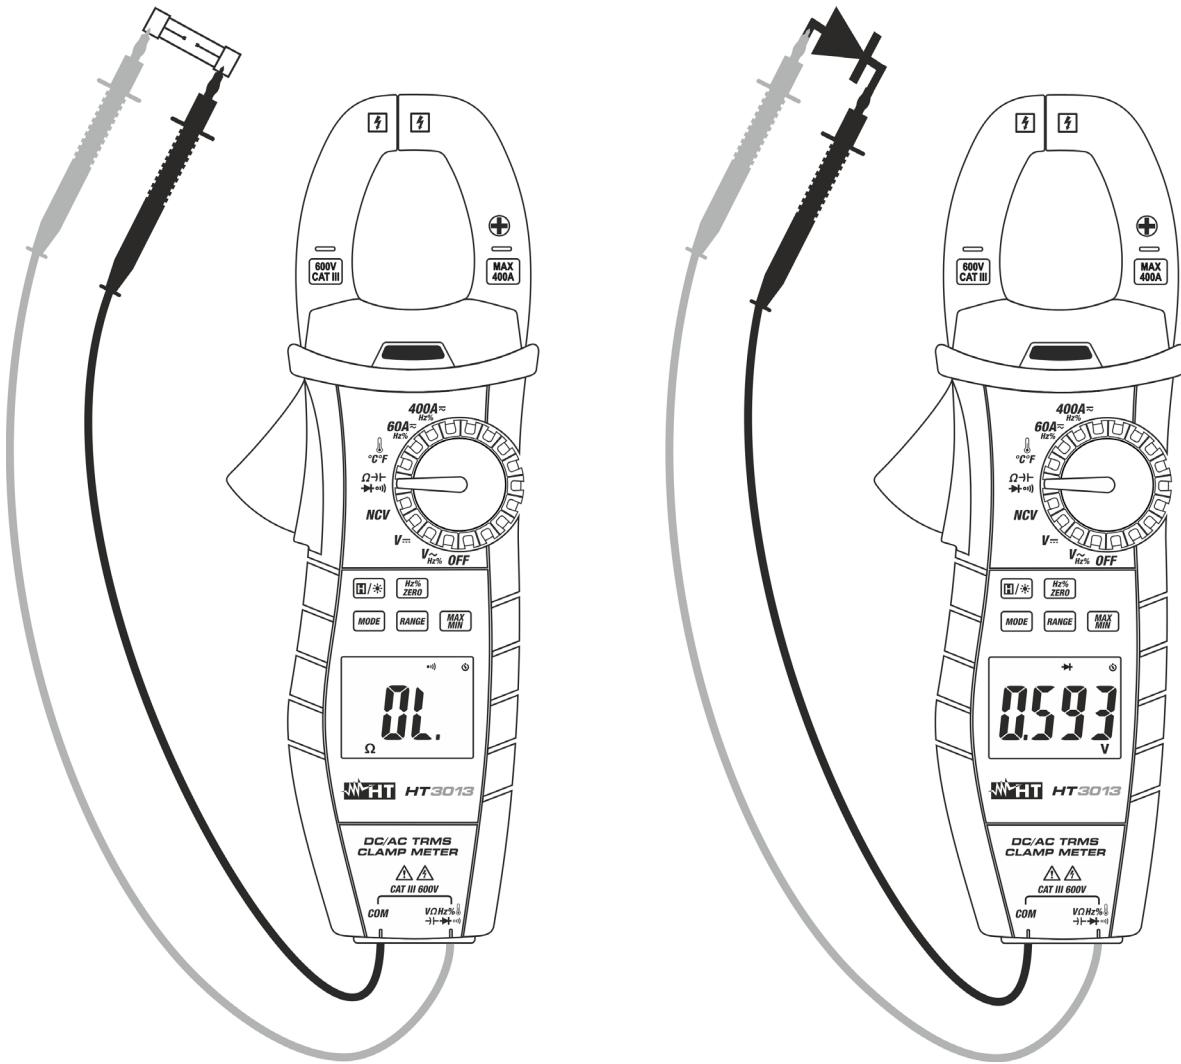

Fig. 8: Use of the instrument for continuity test and diode test
3. Insert the red cable into input terminal  $\text{V}\Omega\text{Hz}\% \rightarrow \cdot \cdot \cdot \rightarrow \cdot \cdot \cdot$  and the black cable into input terminal **COM** and carry out the continuity test of the object to be measured (see Fig. 8 – left side). An buzzer sounds when the measured value of resistance is lower than  $30\Omega$
5. Connect the red lead to the anode of the diode and the black lead to the cathode in case direct polarization measurement is carried out (see Fig. 8 – right side). Invert the position of the leads in case reverse polarization measurement is carried out.